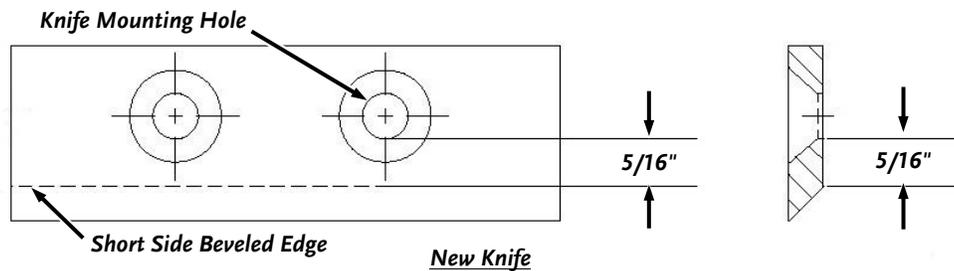

Figure 41
- A new Chipper Knife has a $5/16"$ measurement between the short side bevel edge and the Knife mounting holes (**Figure 41**).